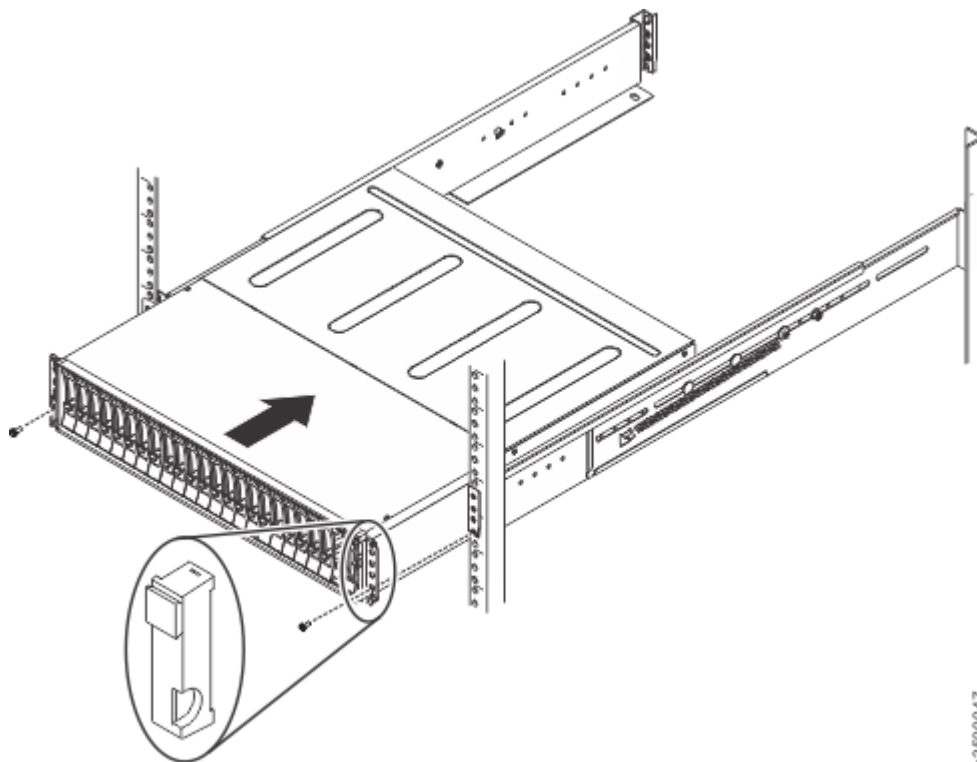

Figure 23. Inserting the enclosure
3. Slide the enclosure into the rack along the rails until the enclosure is fully inserted. (See Figure 23 on page 48.)
(See Figure 23 on page 48.)